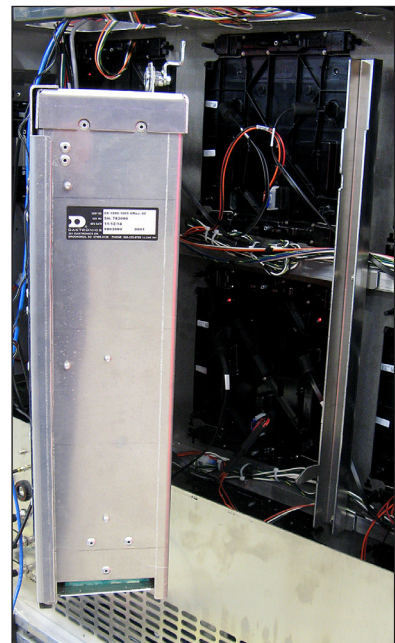

Figure 23: Hinge ISP Enclosure Out of Display
3. Pull the ISP enclosure from the right to hinge it out of the way. Refer to **Figure 23**.